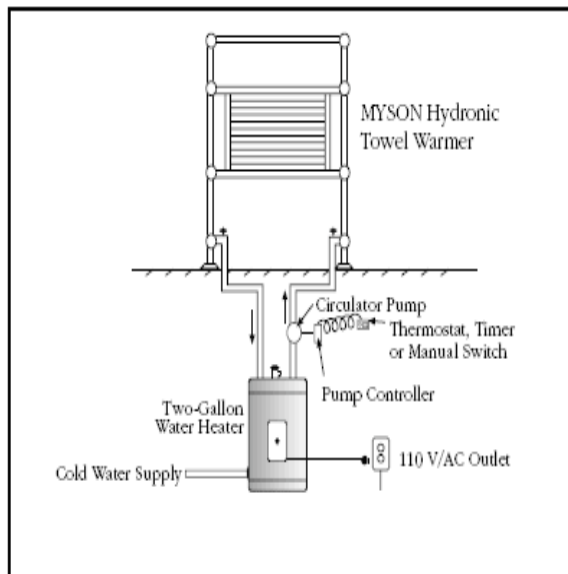

fig 3: Two Gallon Electric Water Heater Connection
1. Connect the Towel Warmer to the heater as shown in fig 3. The circulator pump should be installed on the hot water discharge of the mini heater. The return is connected to a return port on the mini heater or it may be joined with the cold water supply. A shutoff valve should be installed on the cold water supply. Install a pressure relief valve on the mini heater.
3. For low temperature radiant heat systems operating at less than 120°F, a separate heater is required. Follow the instructions for installation using an electric water heater in fig 3.